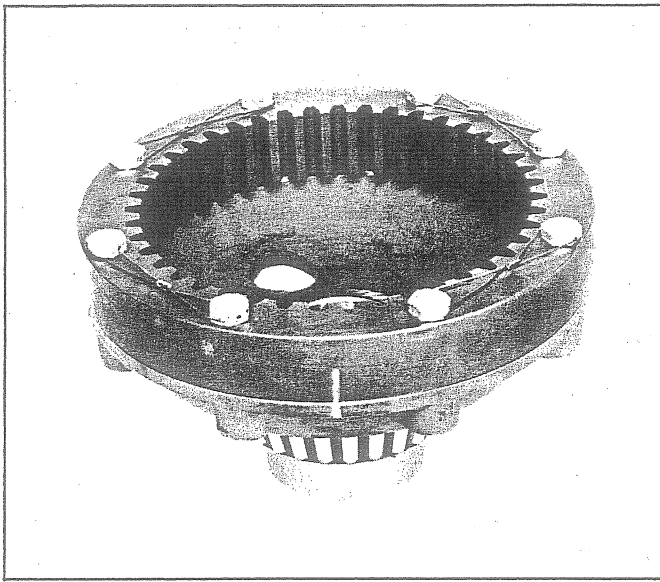

Fig. 40 - "Match Marked" Ring Gear to Hub
4. "Match marked" ring gear to hub as shown in Fig. 40. This will assure proper re-assembly.
7. Reassemble ring gear back to hub, aligning "matched marks" and tightening retaining bolts to 30-90 ft.-lbs. torque. Lock wire bolts in pairs. See Fig. 40.